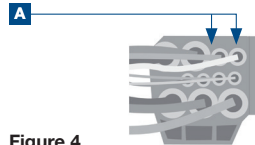

Figure 4
- 15 Remove cable clamps from chambers 1 and 2 (Figure 4):